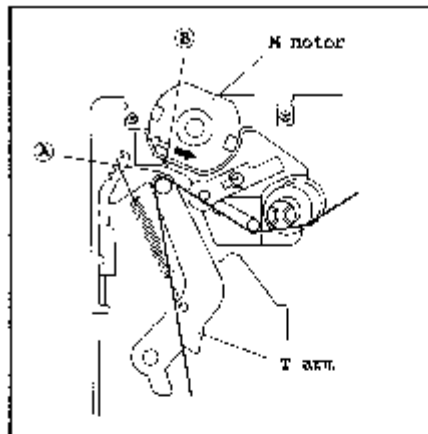

Fig. II-4
3. Adjustment of Tension Regulator Position (Figs. II-4, II-5)
- (1) Referring to 1-2 (P. 21), run the tape without the cassette compartment.
- (2) Confirm that (A) in the Fig. II-4 is within the width of groove (B).
- (3) If it is not within the width, take out the tape once, and loosen the screw securing the T belt. Then, adjust the position referring to the direction of arrows in the Fig. II-4 and II-5.